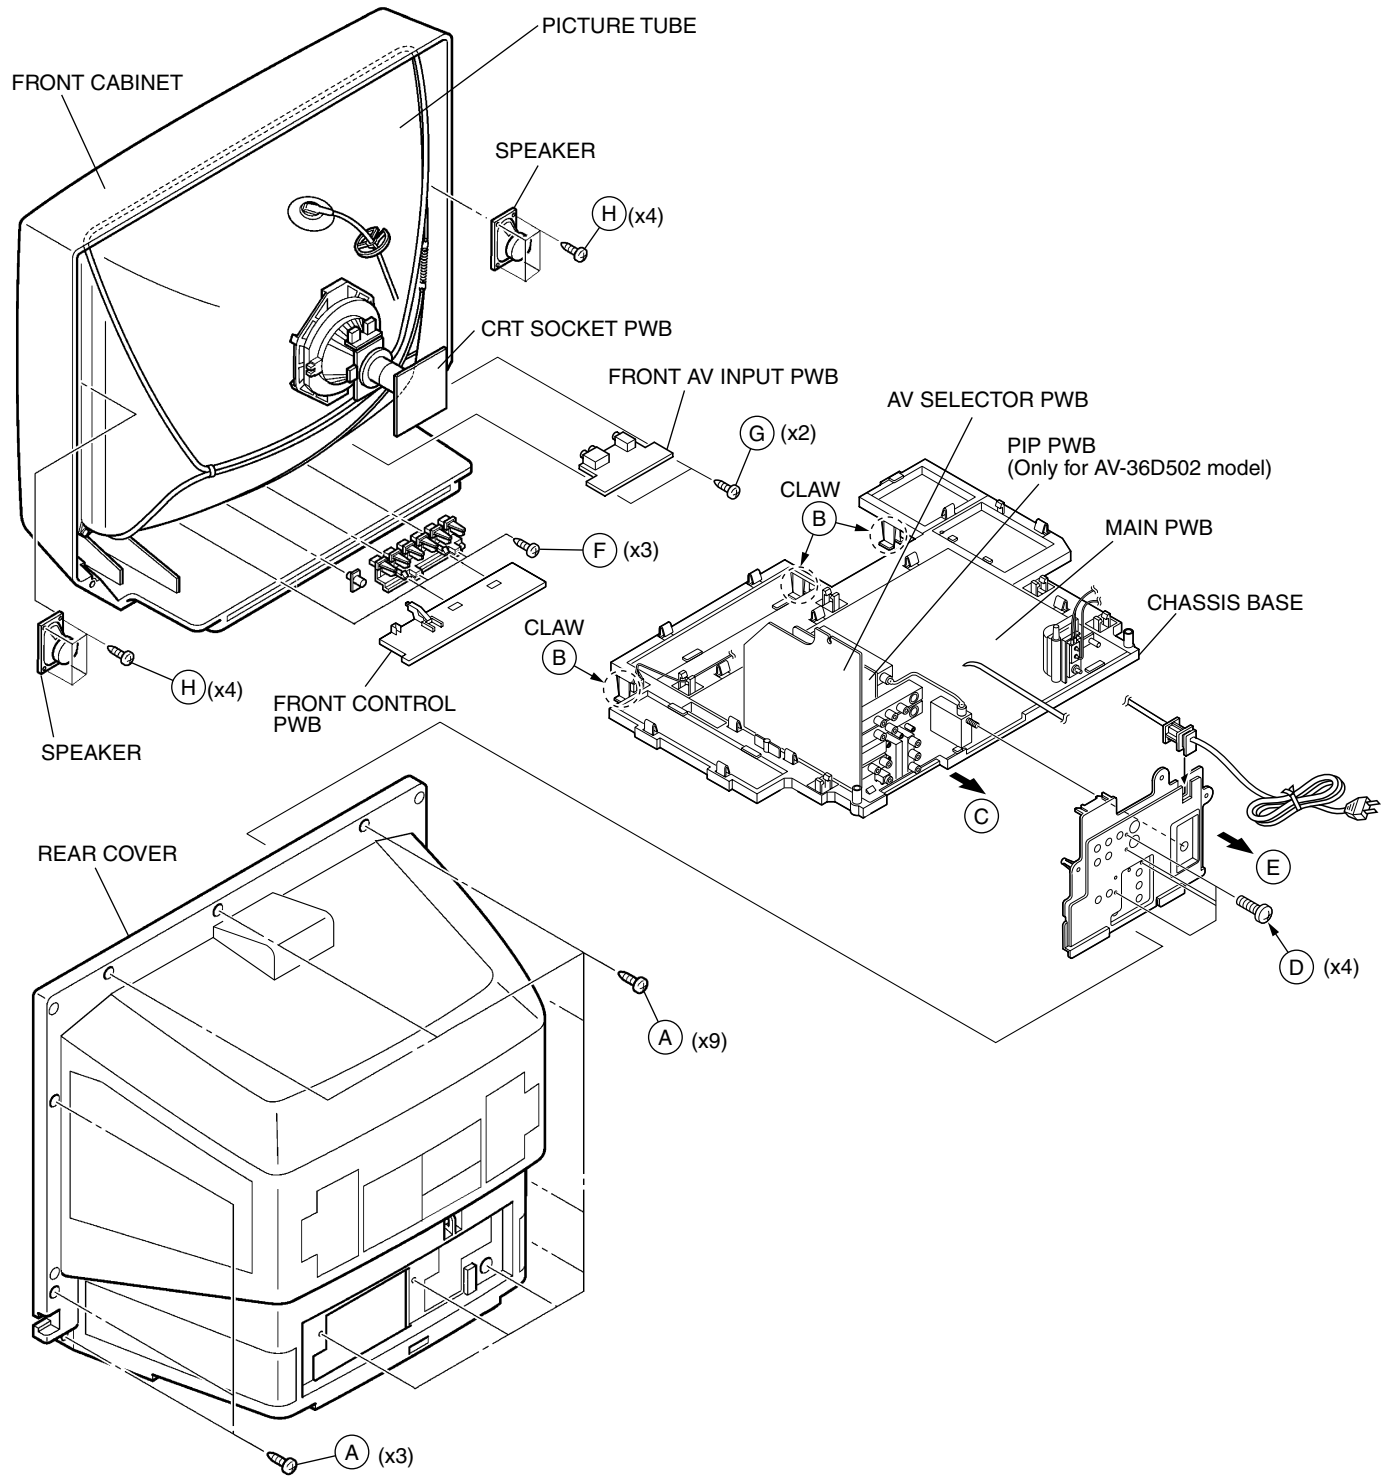

Fig.1
2. Remove the 12 screws marked (A) as shown in Fig.1.
1. Slightly raise the both sides of the chassis by hand and remove the 3 claws marked (B) under the chassis from the front cabinet as shown in Fig.1.
2. Withdraw the chassis backward along the rail in the arrow direction marked (C) as shown in Fig.1.
1. Remove the 4 screws marked (D) as shown in Fig.1.
2. When you pull out the TERMINAL BOARD in the direction of arrow marked (E) as shown in Fig.1, it can be removed.
1. Remove the 3 screws marked (F) and the 2 screws marked (G) as shown in Fig.1.
1. Remove the 4 screws marked (H) as shown in Fig.1.
<p>(7) SERVICE MENU setting            Verify what to set in the SERVICE MENU, and set whatever is necessary.(Fig.1) Refer to the SERVICE ADJUSTMENT for setting.</p>